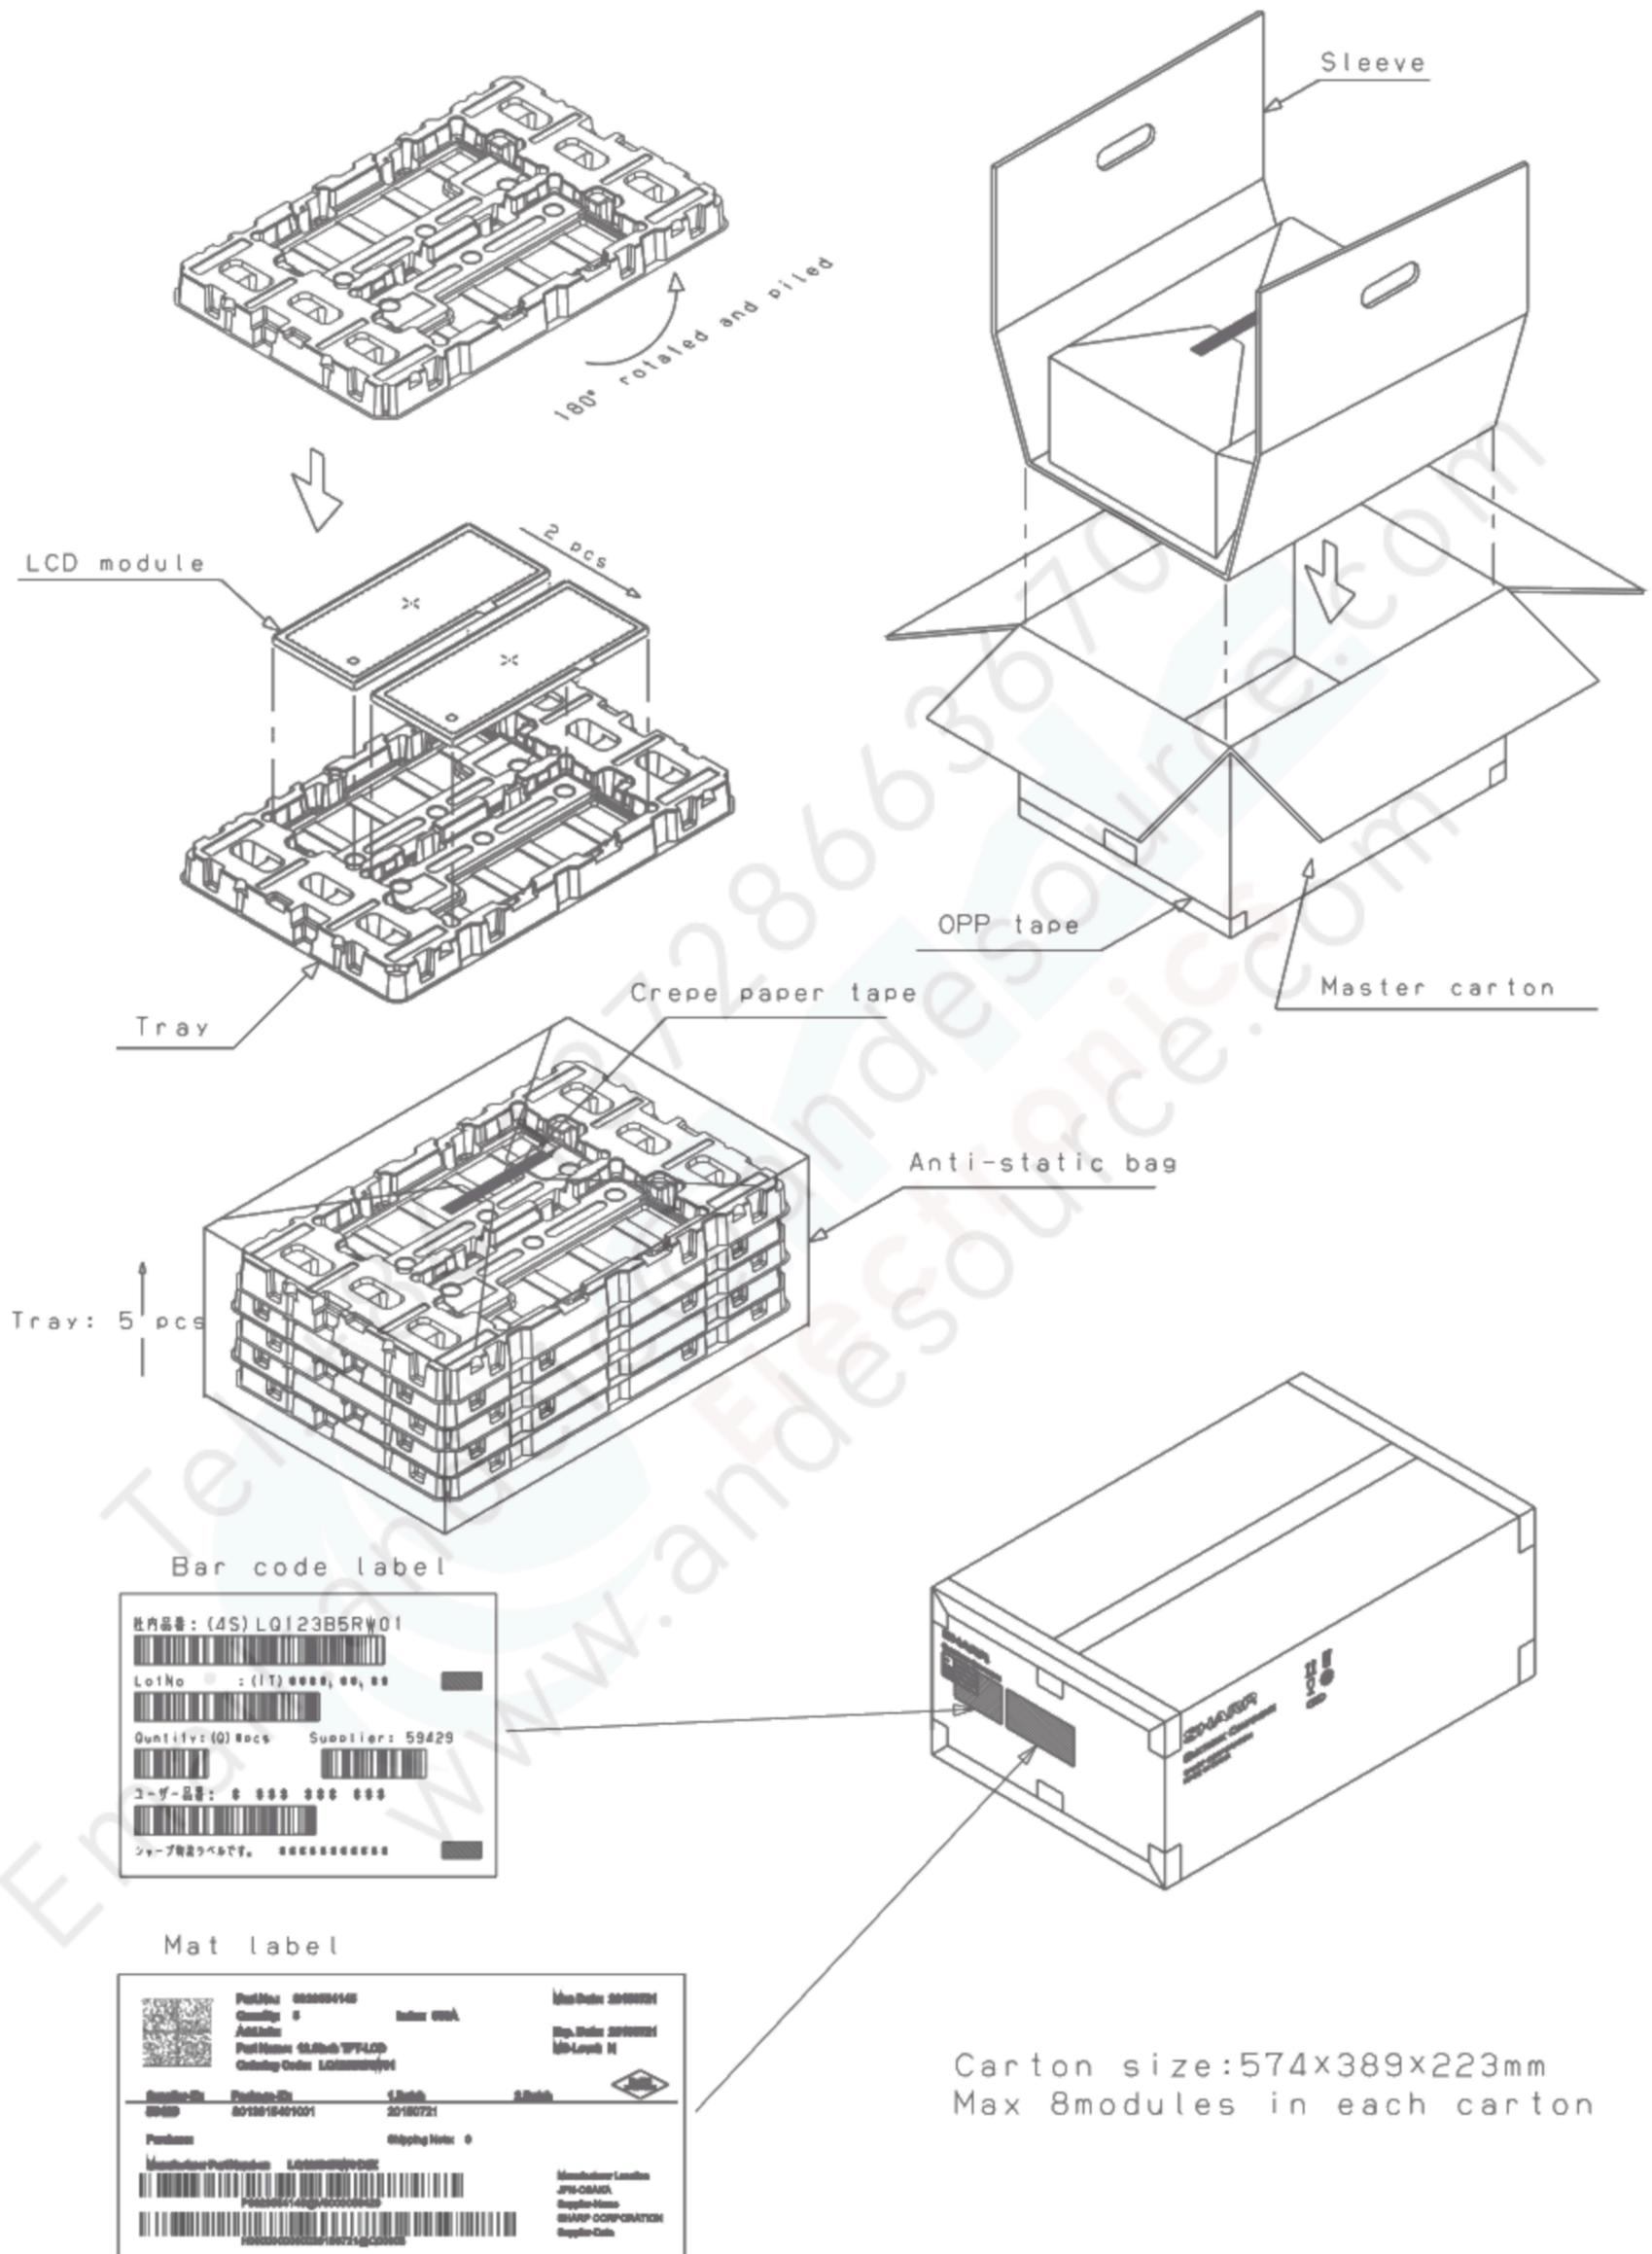

Fig17. Packing Form
- ① Attached location of the label Please refer to Fig.17 (Packing Form)
- ② Indicated contents of the label